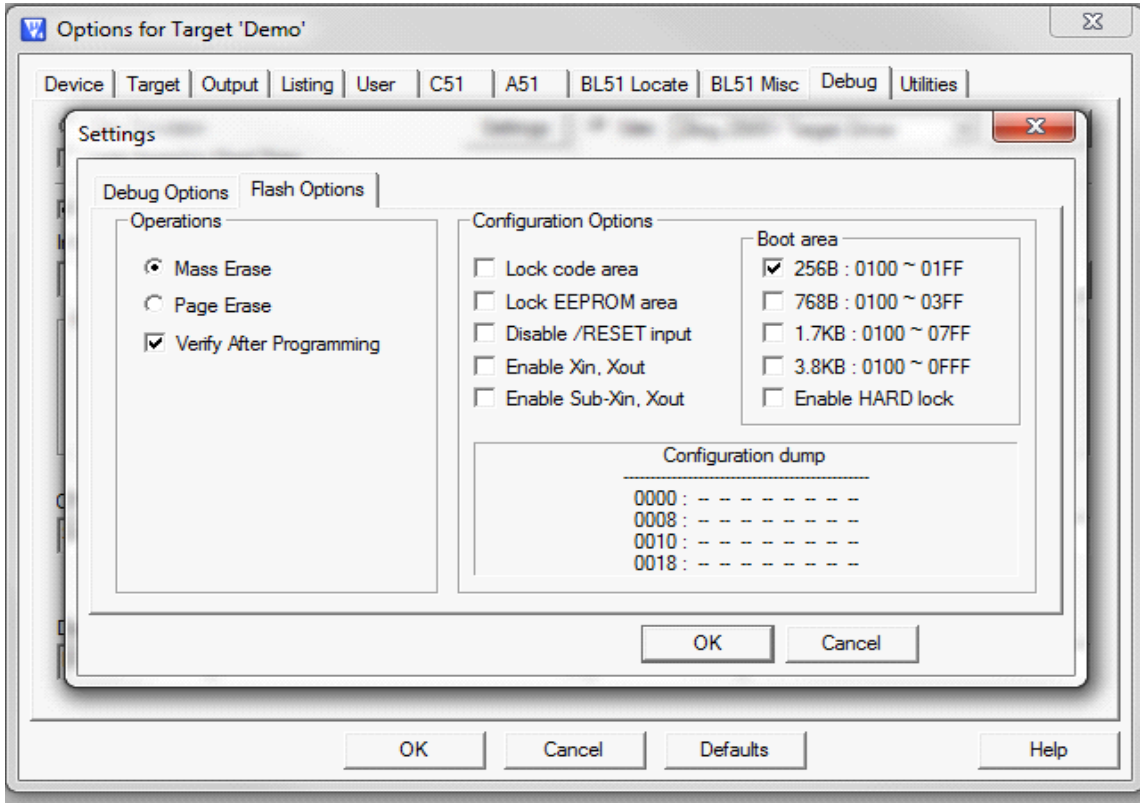

Figure 26. Configuring the Flash Options
8. Click the **Flash Options** tab. The Flash Options Settings dialog will appear, as shown in Figure 26. To select the proper options for Flash programming, refer to the Z51F0811 Product Specification \(PS0296\).